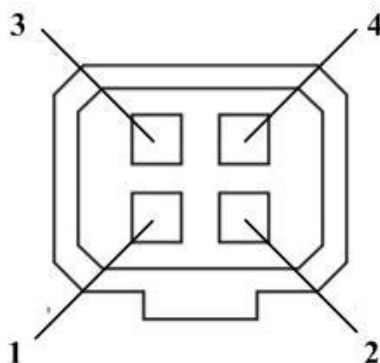

Figure 1-2 Auto-iris Interface
**Note:** The type of auto-iris interface is shown in Figure 1-2, and the definition of each pin is shown below: